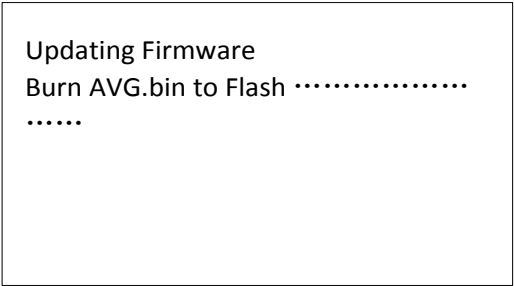

Figure A.4. Image Update Window Shown on the SL-881 LCD Touch Screen
8. Firmware update starts running automatically (Figure A.4). You can release the UPG button now.